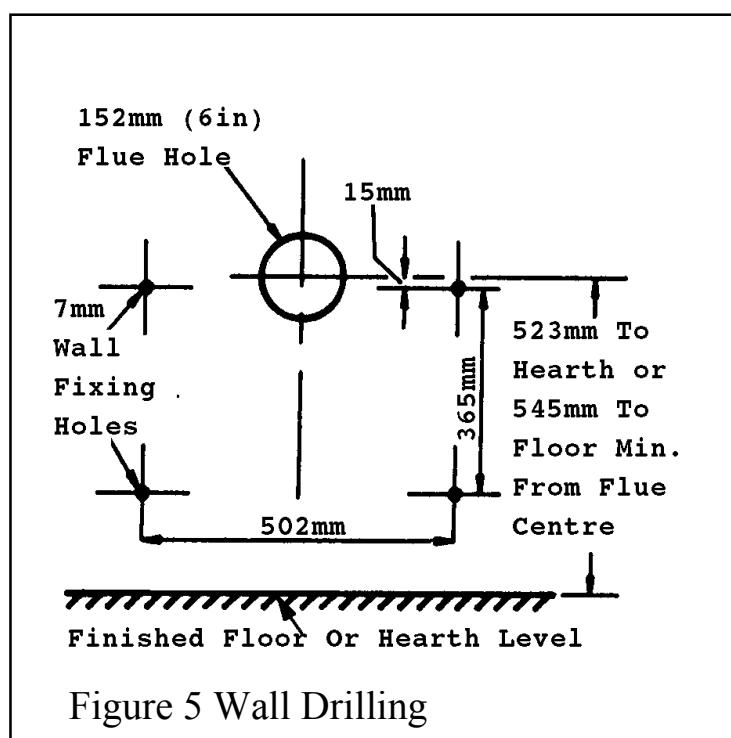

Figure 5 Wall Drilling
The flue must be installed so that it is at right angles to the back panel of the fire all round the flue circumference. The fire itself should be fitted vertically against a flat wall. Where this is difficult to achieve due to building inaccuracies care should be taken to ensure that the back of the fire is not stressed in any way due to distortion of the assembly when tightening the fixing screws. Where necessary, non-combustible packing pieces should be used to provide a satisfactory fixing surface. Before cutting the hole in the wall make sure that the height to the top surface of the finished floor is known. The minimum acceptable height from this surface to the flue hole centre is shown in figure 5.
5.2 Place the template against the wall. Make sure that the centre of the flue hole is not less than the minimum shown in figure 5.